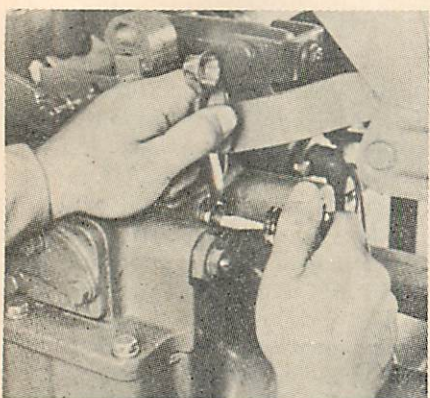

Fig. O151 — Adjusting the interlock bleed screw. Refer to text for adjustment procedure.
**241. INTERLOCK BLEED SCREW.** When using a single-acting remote cylinder, the interlock bleed screw (see cross-sectional view of Hydra-Lectric control unit in Fig. O141) on the side of the unit to which the cylinder is connected must be backed out three full turns. When operating a double-acting remote cylinder, the interlock bleed screw, or screws, must be turned all the way in. Fig. O151 shows location of the interlock bleed screw on right side of tractor; interlock bleed screw on left side of tractor is located diagonally opposite on left side of unit.